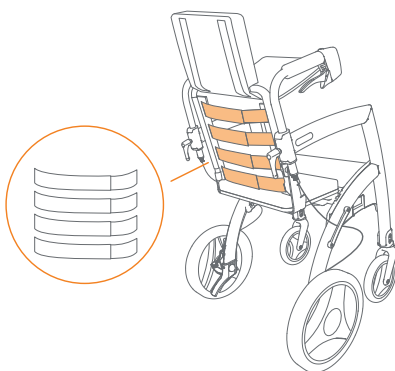

Figure 45: Loosen for more seat depth.
- c. Adjust the straps by pulling off the Velcro and fastening it again to the desired setting (**Figure 45**).